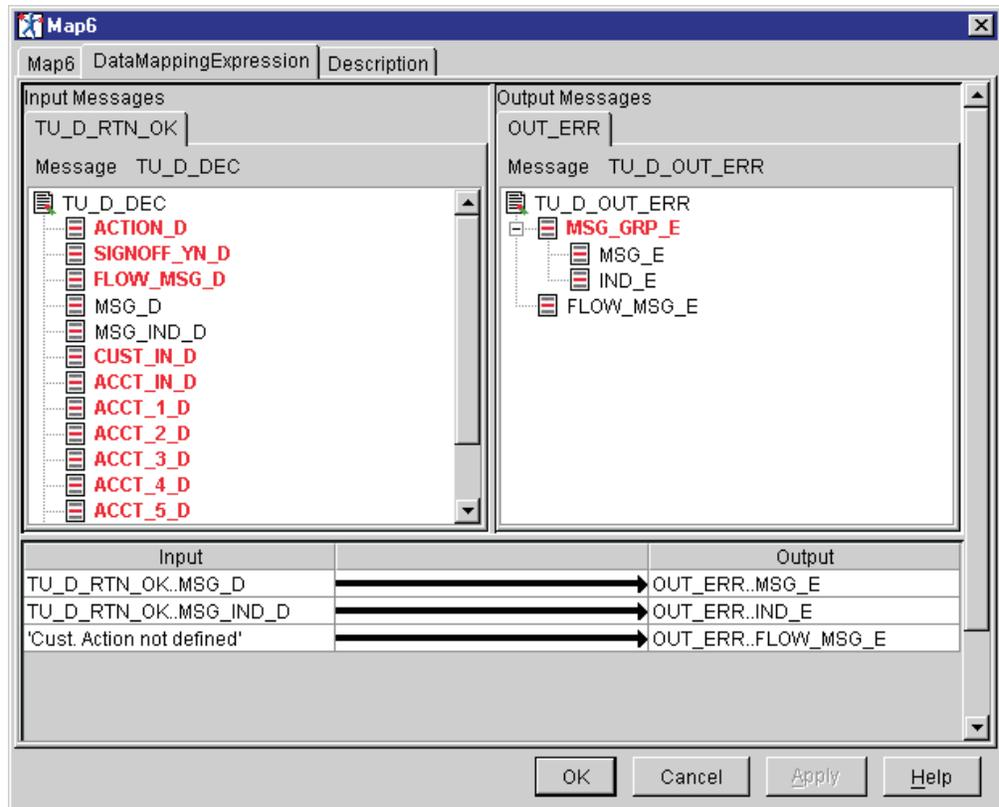

Figure 38. Mapping for Map6 node
- 6) Perform the mapping for Map6 node as listed in Table 18 and shown in Figure 38 on page 56. This map passes error response messages to the DPL Error response Output Terminal (OUT\_ERR).